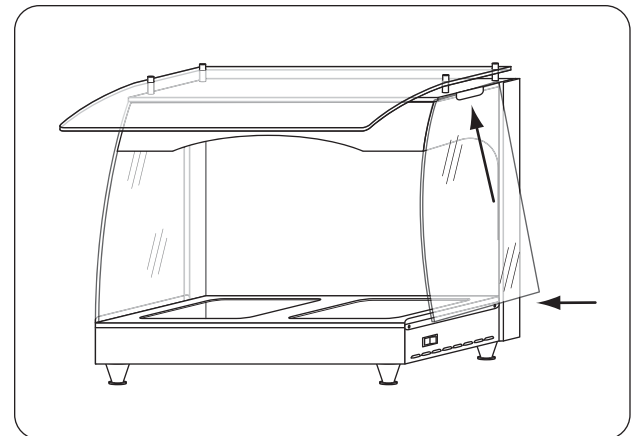

Figure 6. Installing Side Glass Panel
Installing Side Glass Panel (See Figure 6)
4. To install repeat steps 1-2 in reverse order. (See Figure 6.)